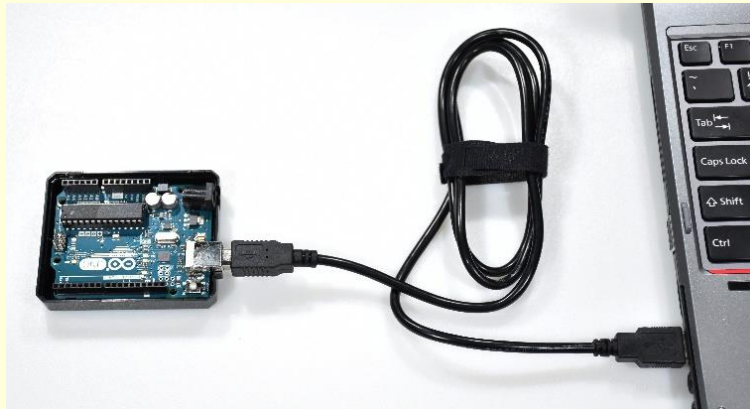

Figure 2-10. Test example for the Serial Monitor.
1. Connect the Arduino to your PC as shown in Figure 2-10.